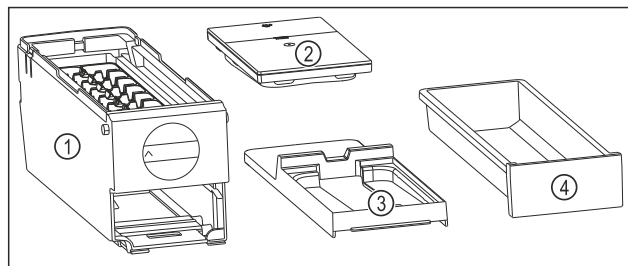

Fig. 114 Components of the EasyTwist-Ice
- ▷ EasyTwist-Ice is dismantled into four parts. (see Fig. 114)
- Only dismantle the EasyTwist-Ice into the components shown. (see Fig. 114)
- Clean the EasyTwist-Ice body Fig. 114 (1) as a whole.